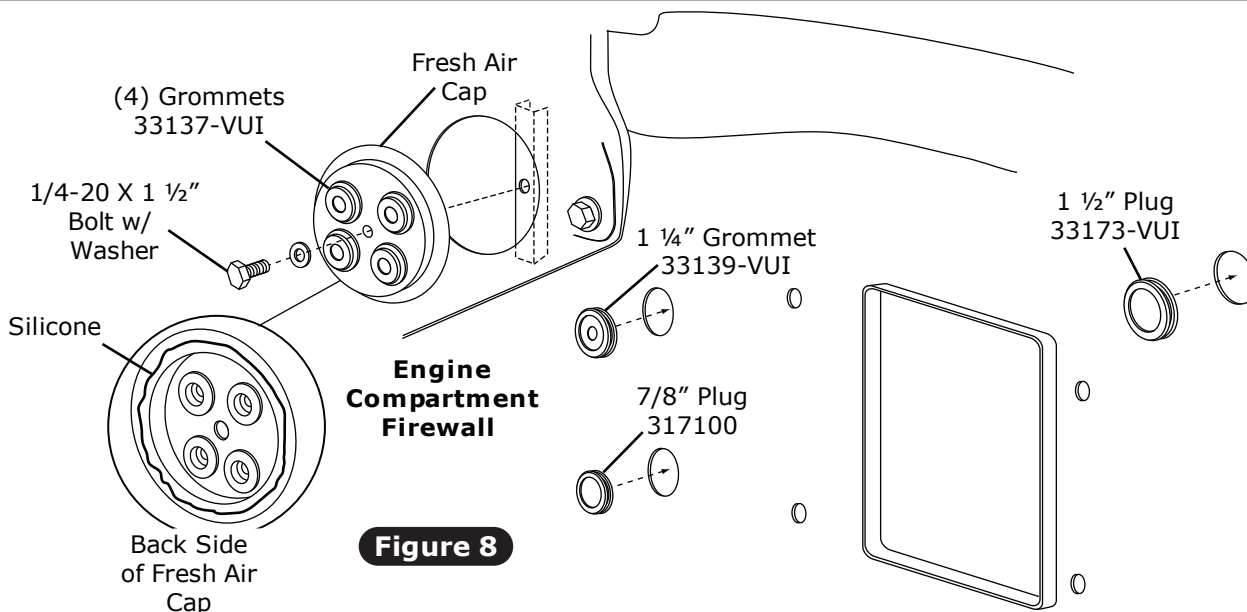

Figure 8
1. Install (4) grommets in fresh air cap (See Figure 8, below).
2. Apply a 1/4" bead of silicone around the back side of the fresh air cap as shown in Figure 8, below.
3. Attach fresh air cap to firewall using a 1/4-20 X 1 1/2" bolt and washer (See Figure 8, below). **NOTE: Fresh air cap installs on engine side of firewall.**
4. Install 1 1/4", 7/8" and 1 1/2" plugs in firewall (See Figure 8, below).